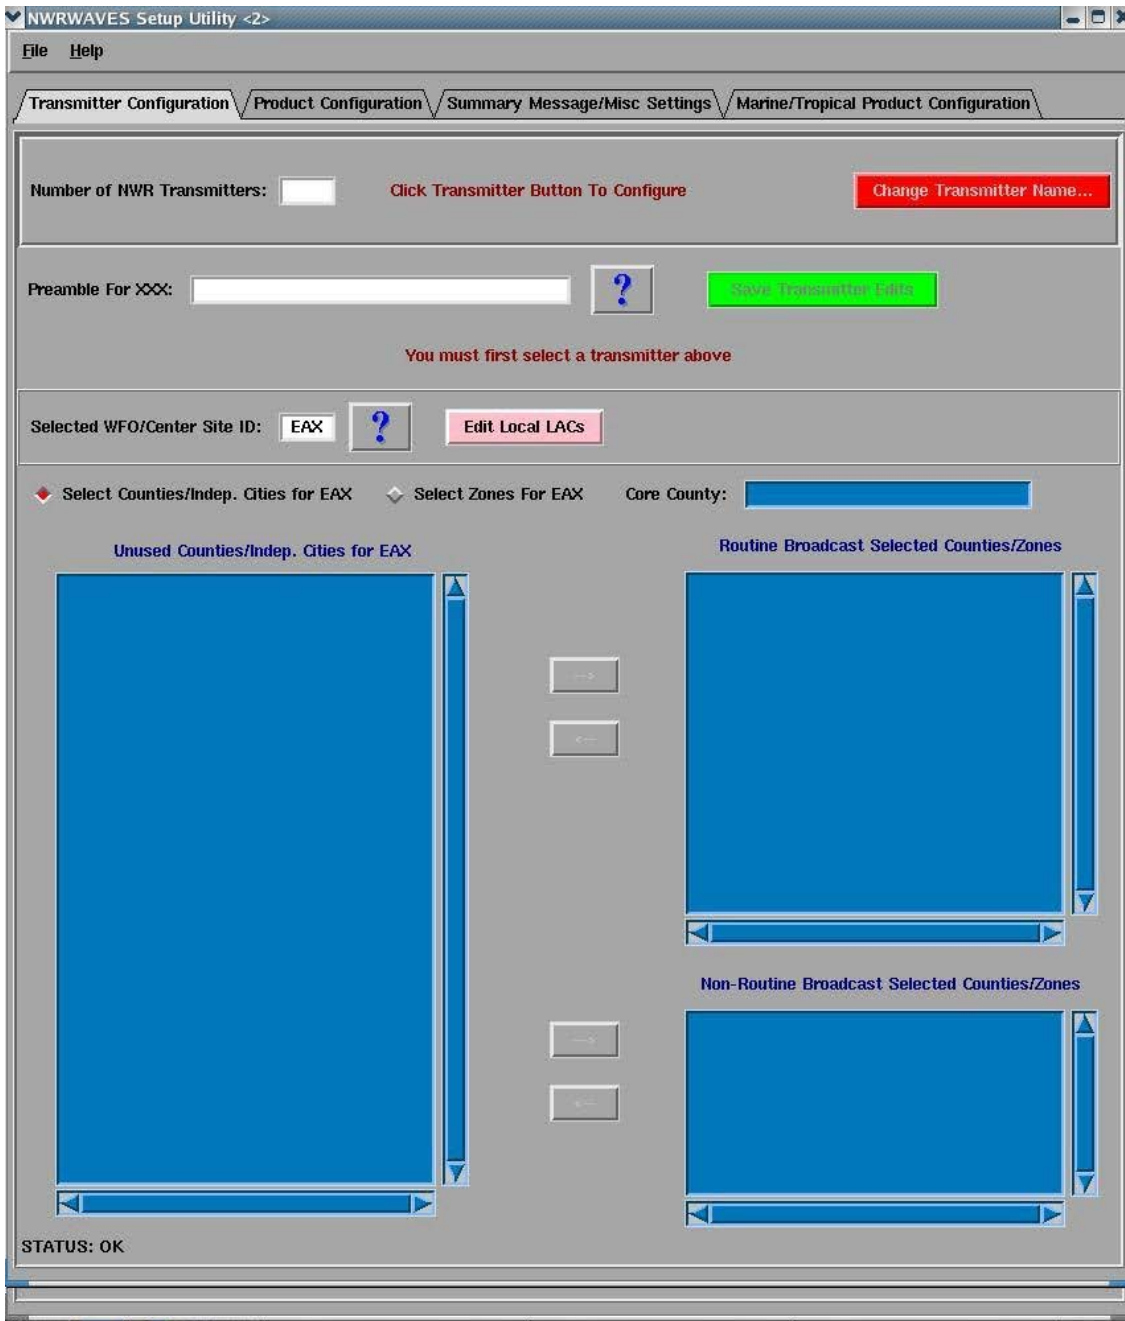

Figure 2 – NRRWAVES Setup GUI
- B) From the “NRRWAVES” pull-down menu, select the option “NRRWAVES Setup”. You will see the NRRWAVES Setup GUI pop-up on your AWIPS screen (Figure 2). The initial display will start on the first of four tabs, which is the transmitter/broadcast program configuration tab